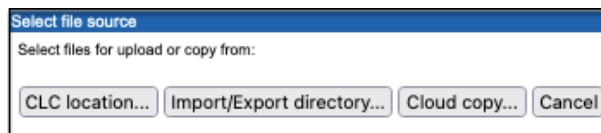

Figure 7.11: Choose the source of data to upload to AWS S3.
- **Using a graphical file chooser** Click on the **Add files...** button to select files and folders using a graphical file browser. The first step will be to specify the source of the data to upload (figure 7.11).